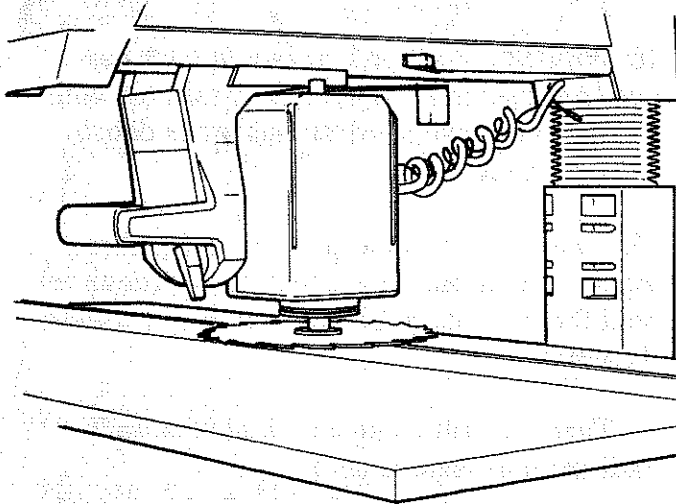

Fig. 119
3. Unlock the *bevel lock*, and turn the *motor* so that the *blade* is parallel to the *table*. (Figure 119)